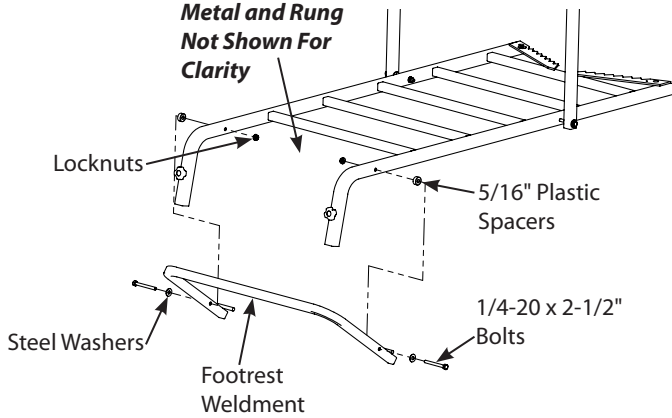

Figure 7
7. Attach footrest weldment (14941) to the platform weldment using (2) provided 1/4-20 x 2-1/2" bolts, 5/16" plastic spacers (48639), steel washers and locknuts. **SEE FIGURE 7.**